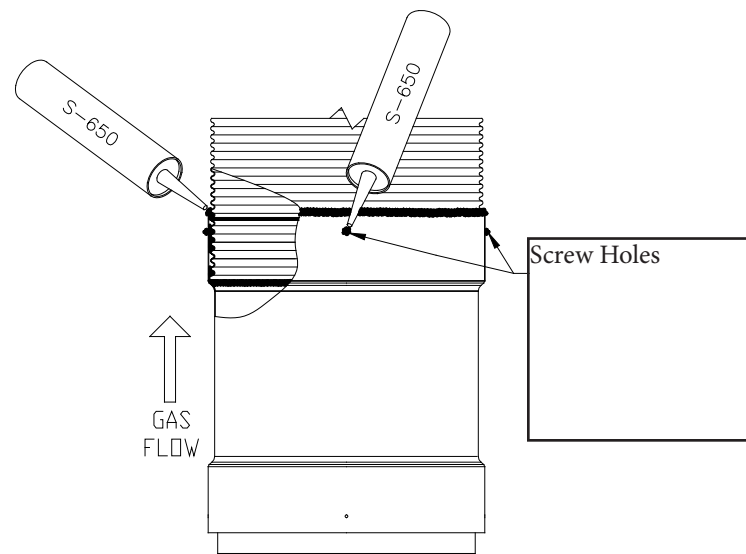

Figure 20- DuraSeal Flex S-650 caulking
- 2.3. Add a bead of the S-650 red caulking all around the outer junction of the adapter and the flexible liner to make sure everything is well sealed. Also add over the screw holes (Figure 20).